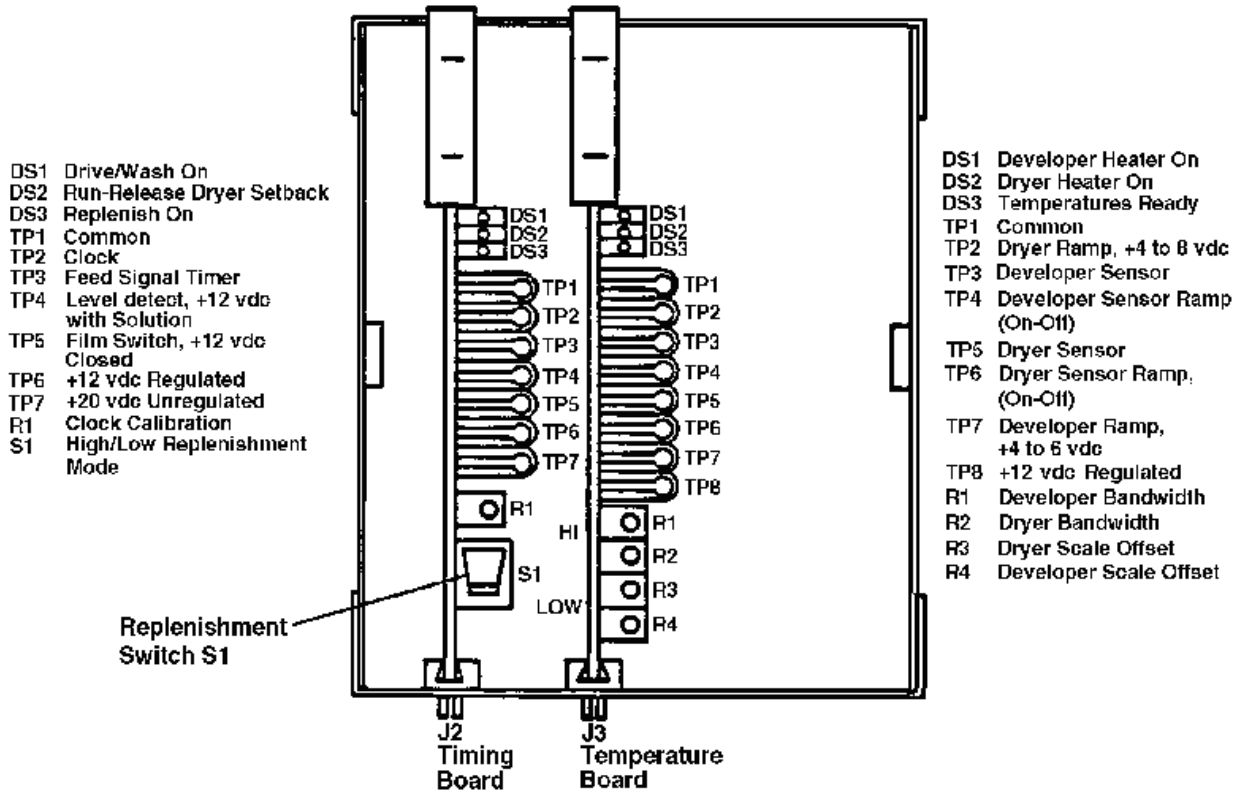

Figure 1-16. Adjustment and test point on PC boards.
(d) Remove the PC card cage cover. Refer to figure 1-16. Check for $12 \pm 0.5\text{vdc}$ between TP6 and TP1 (common) on the timing PC board J2, and between TP8 and TP1 (common) on the temperature board PC board J3. Also check for $20 \pm 2\text{vdc}$ between TP7 and TP1 on J2. If any of these voltages are missing, disconnect power, remove the PC boards, and clean the contacts with an eraser. Check the PJ1 connector to make sure it is clean and tight. Reinstall the PC boards and recheck the voltages. Replace a PC board that has a voltage problem.
(b) Check the amp draw of the developer and dryer heating elements. Refer to figure 1-16. For warm-up, when you first turn on the power, the controller switches full power to the developer heater only. You can check this by observing the leds on PC board J3. This indicates when a heat signal is being sent to a triac. DS1 indicates developer heat, DS2 indicates dryer heat. Refer to figure 1-16.
(7) Check the replenishment system. The replenishment system operates in two switch-selectable modes. The mode switch is switch S1 on the timing PC board J2. See figure 1-16. In the high volume mode, replenishment occurs while film being fed into the machine depresses the film switch. In the low volume mode, replenishment occurs not only when film depresses the film switch, but also whenever there is a jog cycle. This mode is intended to prevent chemistry stagnation from a lack of use. In both modes, replenishment occurs if the developer solution falls below the level probes, and for 30 seconds after the solution is up to the probe level.